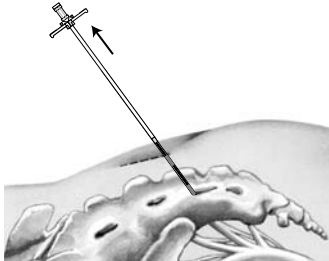

Figure 10. Hold lead and withdraw introducer sheath and lead stylet.
9. When satisfied with lead position, hold the lead in place and carefully withdraw the introducer sheath and lead stylet (Figure 10).